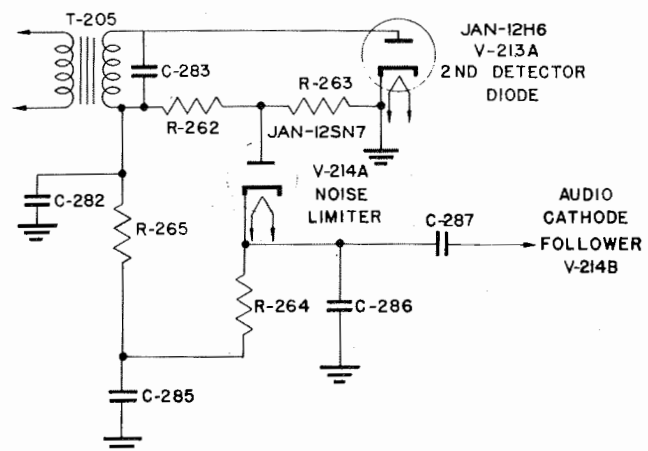

Figure 4-7. Radio Receiver—Noise Limiter Circuit
(6) SECOND DETECTOR AND NOISE LIMITER.—The modulated RF voltage applied to the second detector diode (part of JAN-12H6, V-213) is rectified, developing a DC voltage, upon which the audio components of the modulated wave are superimposed. (See fig. 4-7.) The audio components of this voltage are fed through the noise limiter tube into the grid of the audio cathode follower. These tube sections are both contained in the JAN-12SN7GT tube (V-214). The noise limiter tube is connected to be actually in series with the audio path. The audio voltage is fed into the plate and out of the cathode of the tube. Conduction of audio voltage